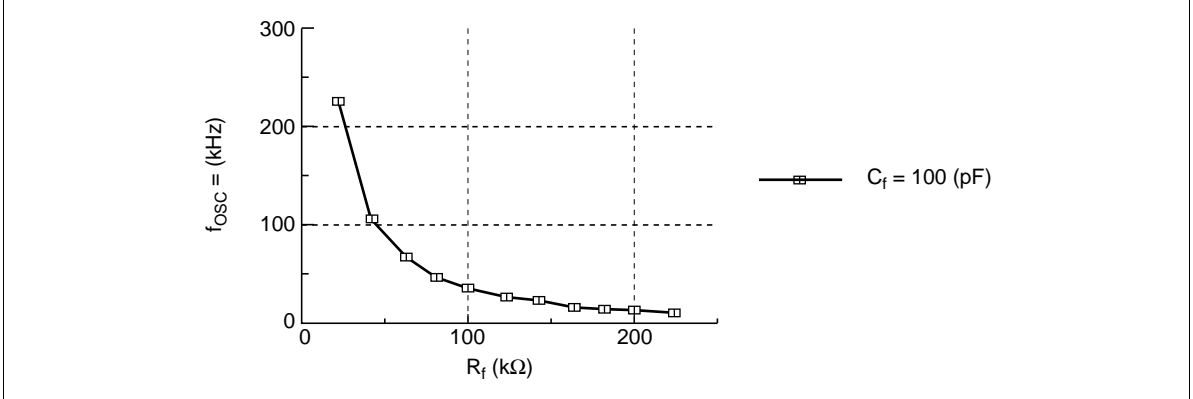

Figure 19 Oscillation Frequency Characteristics
12. Figure 19 shows a typical relation among oscillation frequency R_f and C_f . Oscillation frequency may vary with mounting conditions.